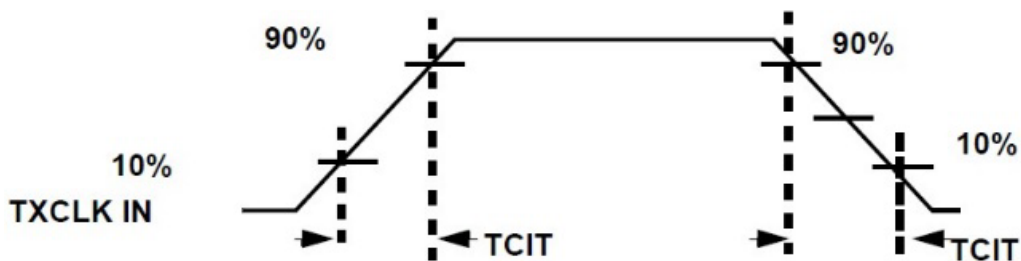

Figure 6: UT54LVDS217 Input Clock Transition Time
1. Recommend transition time for TXCLK In is 1.0 to 6.0 ns (figure 6).